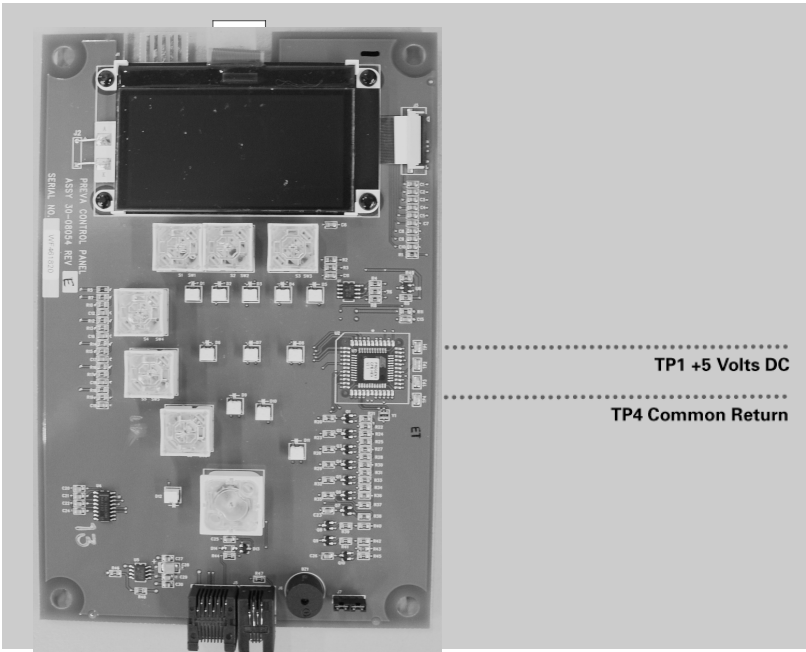

Figure 60
7. If the power supply voltages are present, and the ribbon cable and communication cable are found acceptable, open the Operator Panel case and measure for the presence of +5 volts DC across TP1 and TP4 of the Operator Panel Board, as shown in *Figure 60*. Absence of this voltage indicates the need to reconfirm the power supply voltages and communication cable. Presence of the voltage requires the replacement of the Operator Panel Board.